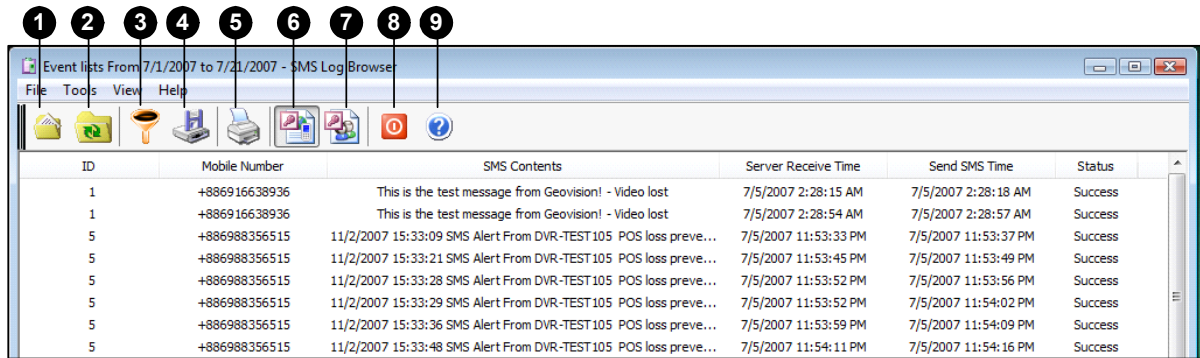

Figure 10-9
Clicking the **SMS Event Log** button (No. 6, Figure 10-9) on the toolbar, you can monitor senders (ID), mobile numbers, text messages, sent and failed SMS. **This can be beneficial as you may charge your clients by the amount of SMS messages they sent.**
Clicking the **System Event Log** button (No. 7, Figure 10-9) on the toolbar, you can monitor the server activities, client login and logout, and connection problems.